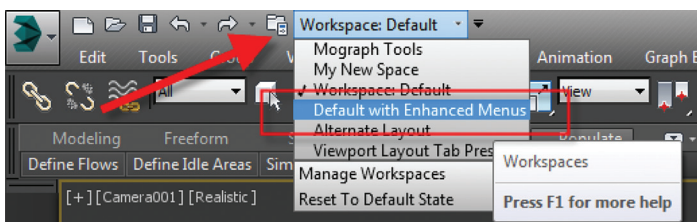

Figure 3: Turning on the Enhanced Default UI
Step 1: Turn on Enhanced Default UI (Figure 3).